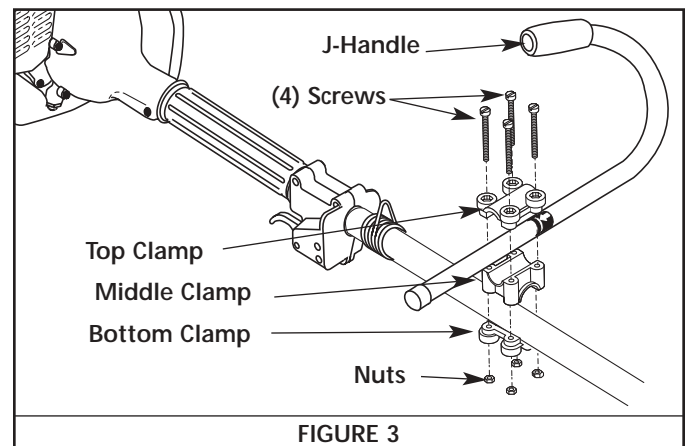

FIGURE 3
3. Place the J-handle between the top and middle clamp pieces. See Figure 3.